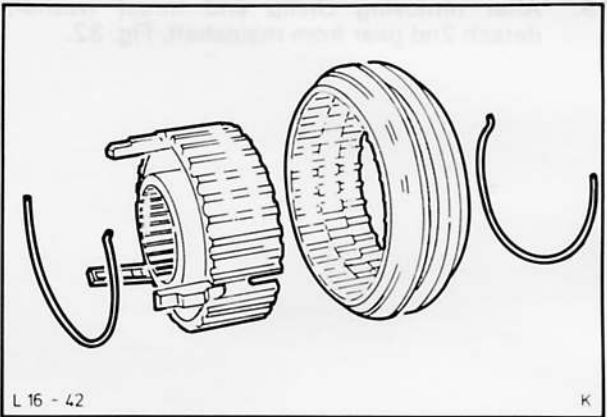

Fig. 35. Synchroniser hub exploded
23. Dismantle 3rd/4th gear synchroniser hub, Fig. 35. Remove selector ring, blocker bars and springs.